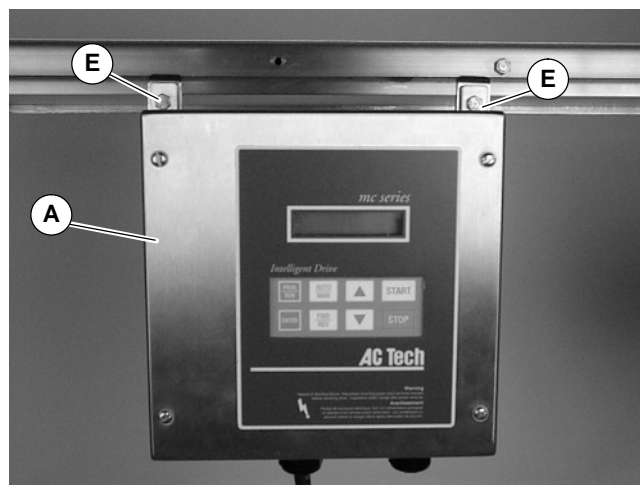

Figure 5
3. Attach controller (A of Figure 5) to conveyor with screws (E).